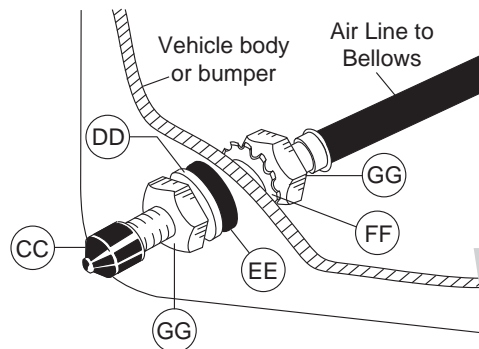

fig. 8
4. Place a $\frac{5}{16}$ " nut (GG) and a star washer (FF) on the air valve. Leave enough of the inflation valve in front of the nut to extend through the hole and to have room for the rubber washer (EE), flat washer (DD), and $\frac{5}{16}$ " nut (GG) and cap (CC). There should be enough valve exposed after installation - approximately $\frac{1}{2}$ " - to easily apply a pressure gauge or an air chuck (Figure 8).
5. Push the inflation valve through the hole and use the rubber washer (EE), flat washer (DD), and another $\frac{5}{16}$ " nut (GG) to secure it in place. Tighten the nuts to secure the assembly in place (Figure 8).